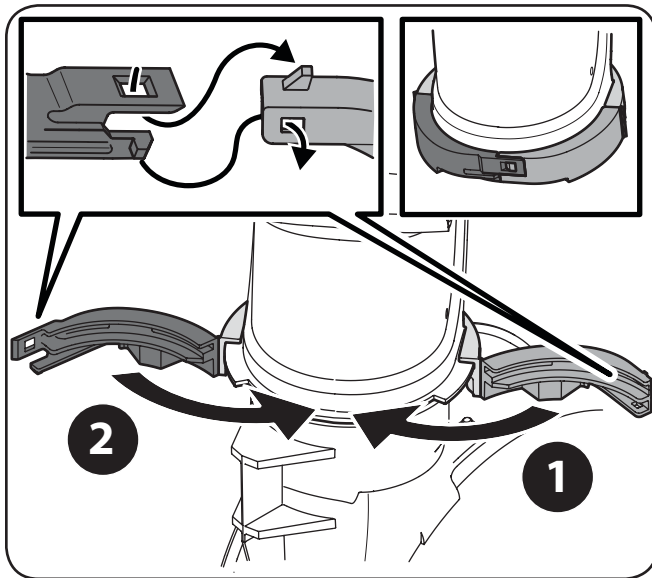

Figure 3-5
- Secure the chute band to itself by first aligning the two snap-fit features and pushing the two ends (1 & 2) together as shown. Be sure both tabs on the two ends engage each other, as shown in the top left inset of Figure 3-5. When properly assembled, the chute band will appear as in the top right inset of Figure 3-5.
IMPORTANT: If you need to remove the chute for any reason, a screw driver must be used to release the locking tabs shown above in the left inset of Figure 3-5.